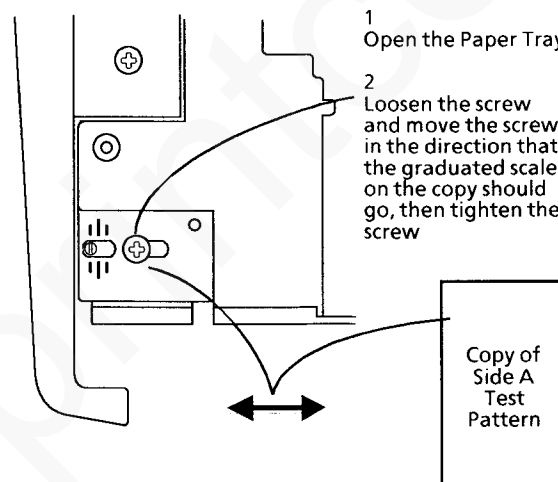

Figure 3. Adjusting the Paper Tray Front-to-Rear Registration
1. Adjust the Paper Tray Front-to-Rear Registration (Figure 3).